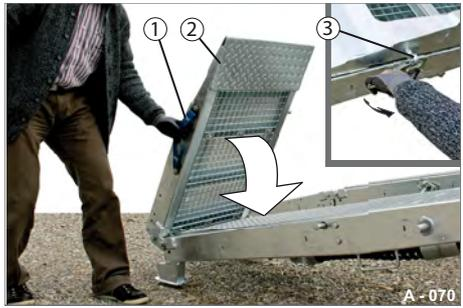

Fig. 107 Raising the drive-up ramp, two-piece
- ▶ If necessary, open the rotary lever latch (Fig. 107/3).
- ▶ Grasp the grip (Fig. 107/1).
- ▶ Fold in the top section (Fig. 107/2) of the ramp.
- ▶ Close the rotary lever latch (Fig. 107/3).